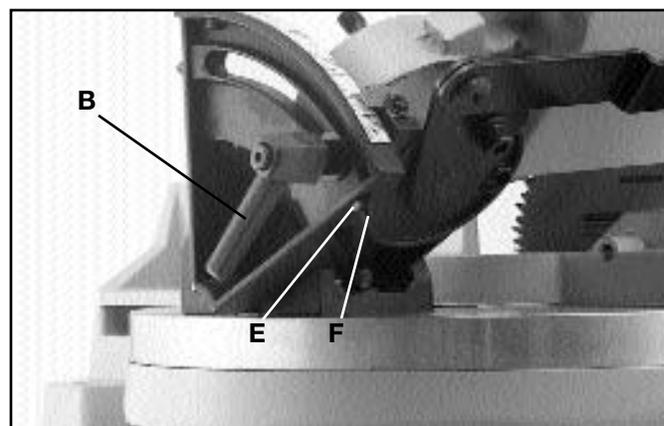

Fig. 24
8. If an adjustment is necessary, loosen bevel lock handle (B) Fig. 24, and tilt the cutting arm until the blade is at 45 degrees to the table. **NOTE:** It may be necessary to loosen locknut (E) and set screw (F) to accomplish this. Then tighten bevel lock handle (B).
9. Loosen locknut (E) Fig. 24, and tighten set screw (F) until it bottoms. Then tighten locknut (E).